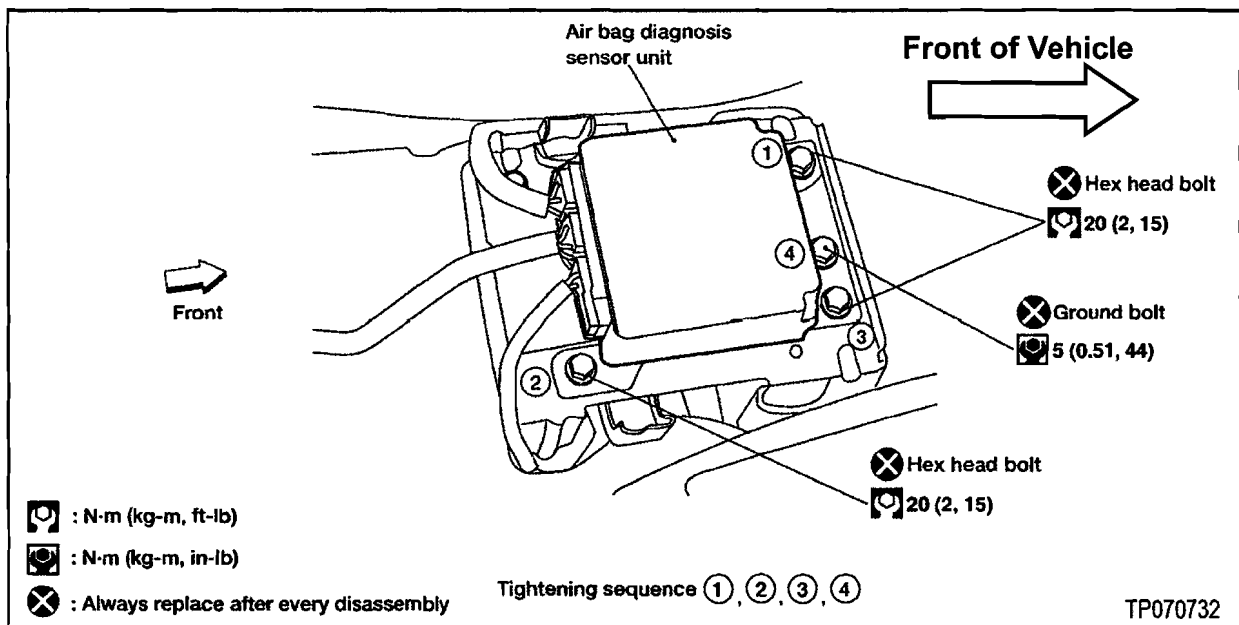

Figure B6
- b. Remove and discard the hex head bolts and ground bolt shown in Figure B6.
- e. Tighten bolts in the order shown in Figure B6.
- f. Torque bolts to the specified values shown in Figure B6.